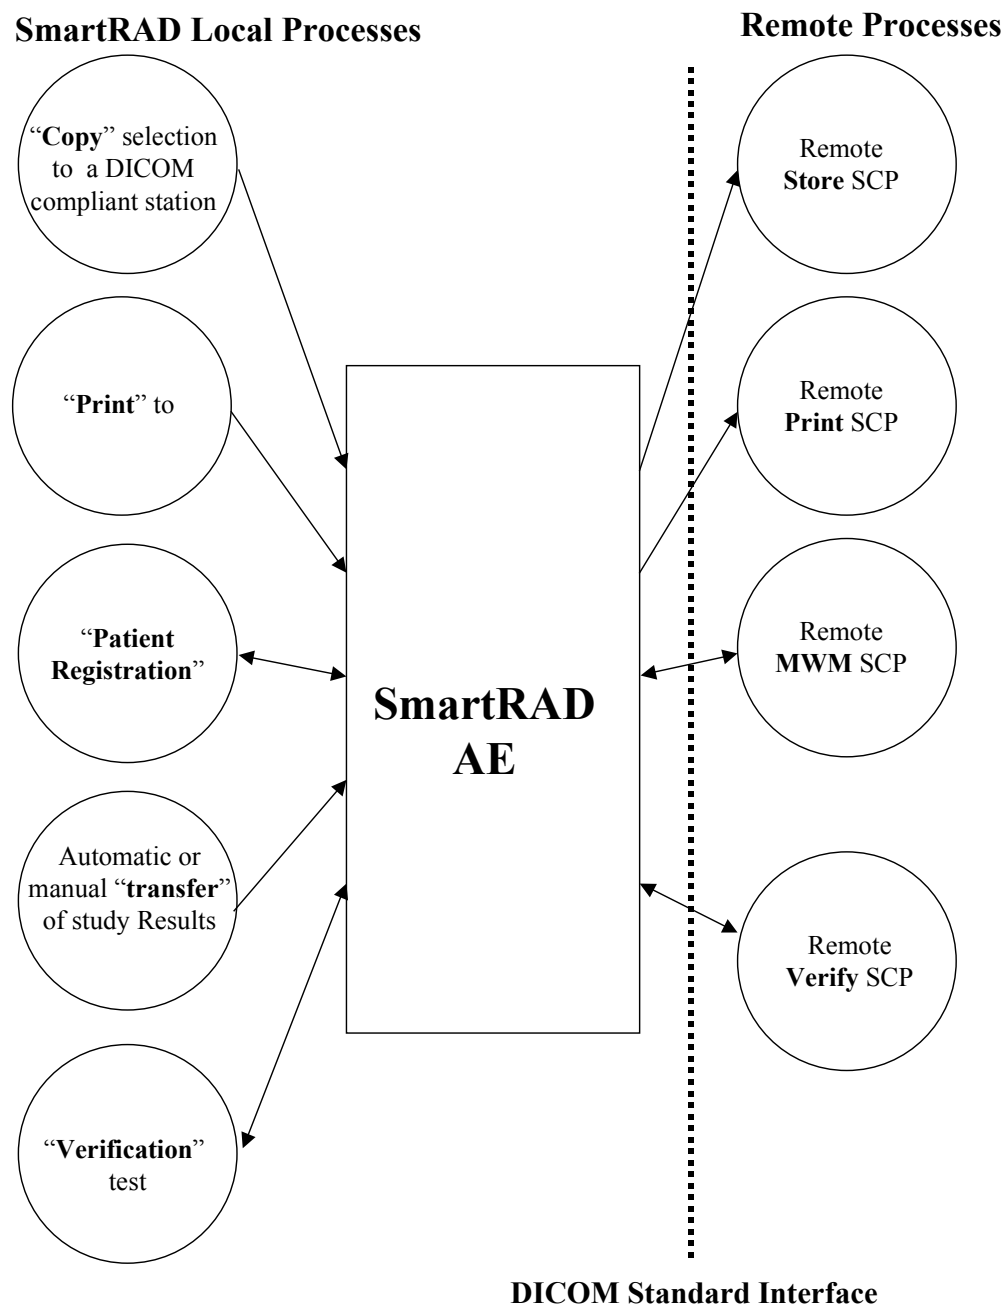

Figure 1: Implementation Model
The SmartRAD behaves as a system with one Application Entity (AE). Its related Implementation Model is shown in Figure 1. It shows the AE and graphically depicts the relationship of the AE use of DICOM to Real World Activities. In the left-hand side, the